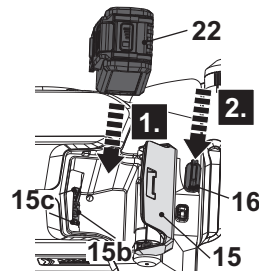

Fig. 9
3. Slide the battery pack (22) into the slot (15c) of battery compartment (Fig. 9, step 1).
5. The battery pack (22) can only be installed in one direction.
6. Close the battery cover (15).
7. Reinstall safety key (16) to its slot (Fig. 9, step 2).